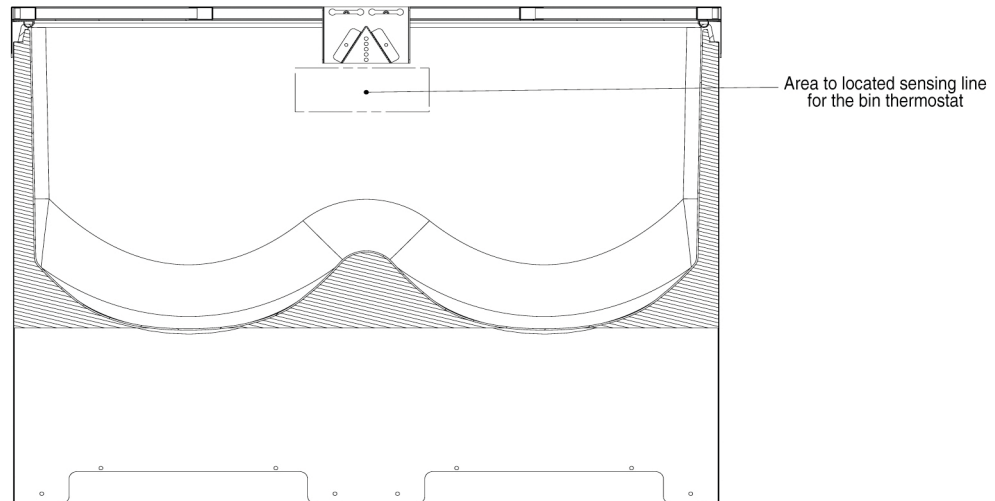

Figure 3.
9. Install Icemaker bin thermostat just underneath ice deflector. See (Figure 3.) for location area.